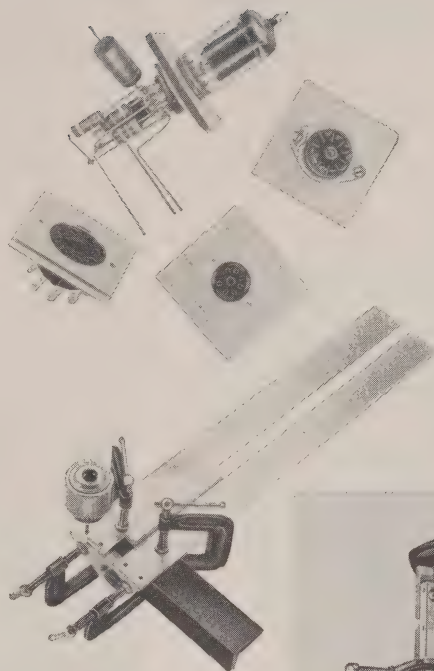

Fig. 5—Method of clamping parts to a portion of angle iron for drilling. A scrap piece of $\frac{3}{8}$ -inch material is shown being used as a spacer.
Components which are to be bolted together are clamped in their required positions on a piece of angle iron or a mounting fixture, as shown in Figs. 5, 6. Tapping holes are then drilled through both parts. Inserting scrap pieces of $\frac{3}{8}$ -inch material as spacers results in uniform gaps in the chassis sides; slide-in panels may be used in gaps of the chassis top.
2. Attach end supports to their corresponding cross rails, clamping and drilling at both ends as indicated in Fig. 5.